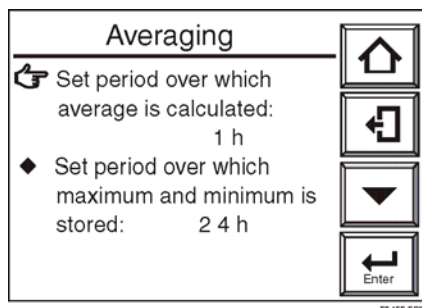

Figure 8-15 Setting Average, Maximum, and Minimum Periods
3. Select "Others" and then select "Averaging" in the "Others" display screen. The averaging display screen shown in Figure 8-15 appears.